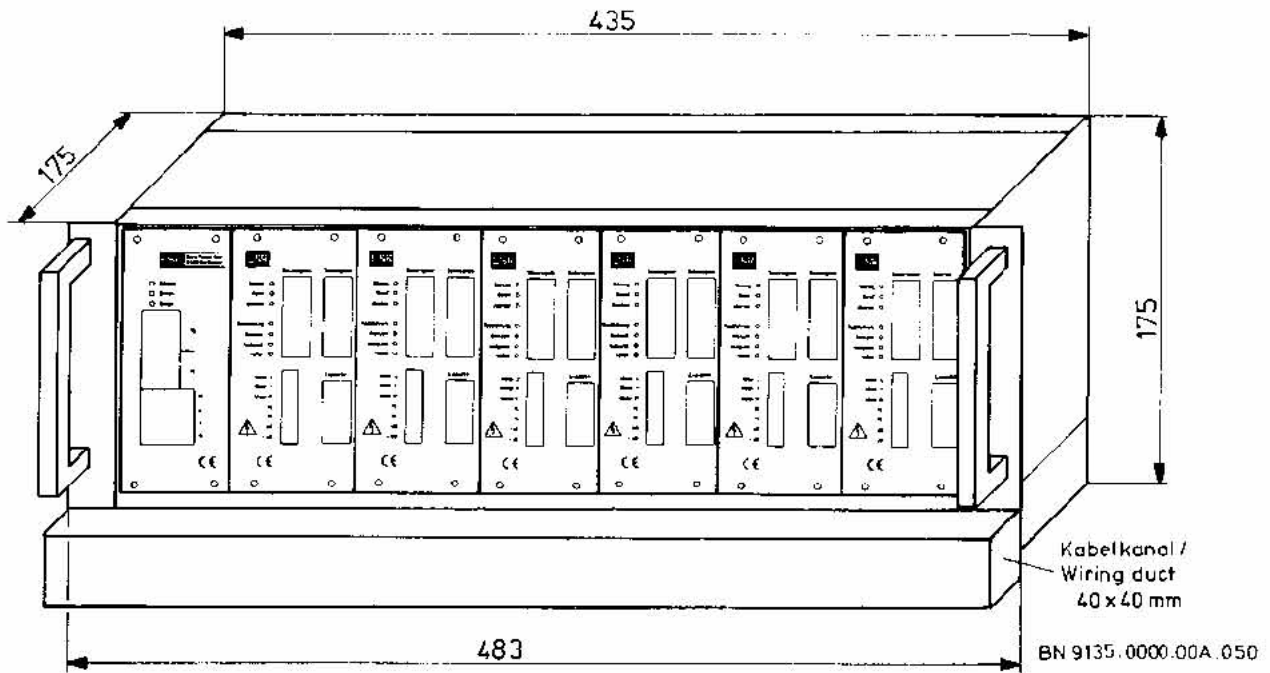
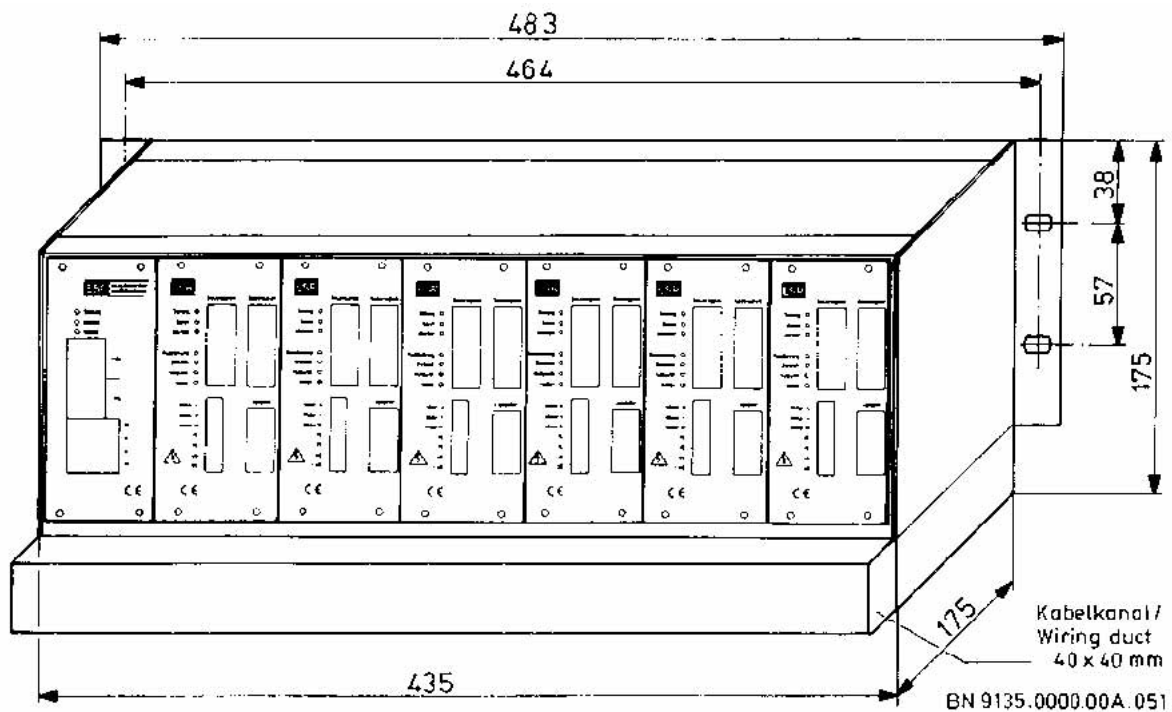

Figure 1: Multi-axis servo amplifier for installation in 19" racks; 84 units wide, 4 height units high including fan unit, dimensions (mm)
Figure 2: Multi-axis servo amplifier for mounting on the control cabinet mounting plate, 84 units wide, 4 height units high including fan unit, dimensions (mm)
- 19" chassis with fan, 4 height units high, or without fan, 3 height units high, for installation in 19" racks or for mounting on the control cabinet mounting plate, 84 units wide for up to 6 amplifier plug-in modules and 1 power supply, or 54 units wide for up to 3 amplifier plug-in modules and 1 power supply (other types on request). Mounting dimensions of the 84 units wide version see fig. 1 and fig. 2.